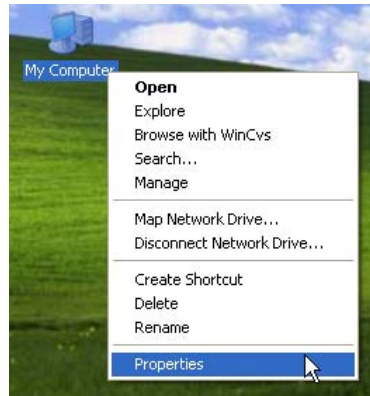

Figure 59
- a. Select **My Computer** icon on your desktop, right click as Figure 59